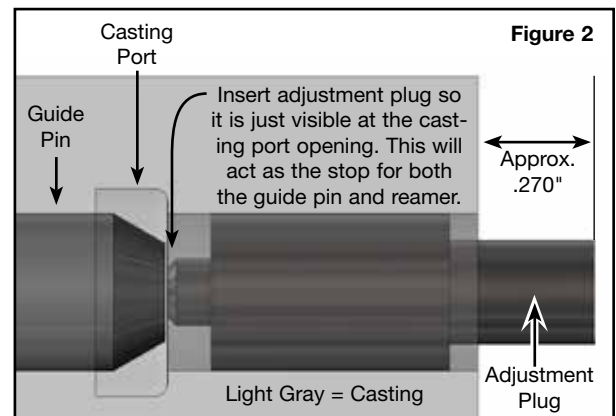

Figure 2
- Reinstall adjustment plug into empty bore, such that the inboard nub is just visible at the casting port (**Figure 2**). The approximate measurement from casting face to the end of plug is .270". Hold in place with OE clip. The end plug will serve as the stop for the guide pin and reamer.
Vacuum testing at the port(s) indicated holds the recommended minimum 18 in-Hg (**Figure 2**).